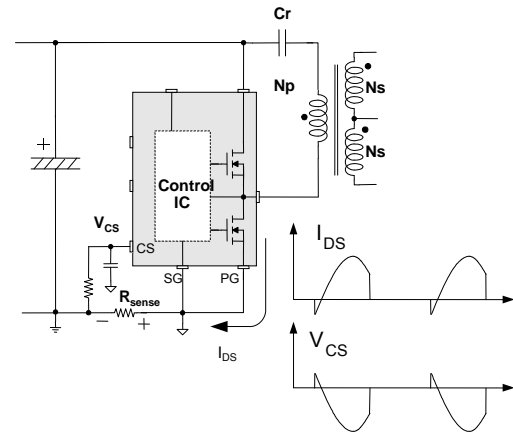
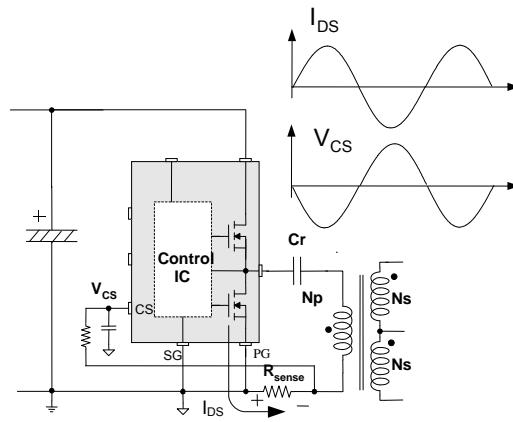

Figure 27. Half-Wave Sensing
Figure 28. Full-Wave Sensing
8.1 Resistive Sensing Method: The IC can sense drain current as a negative voltage, as shown in Figure 27 and Figure 28. Half-wave sensing allows low power dissipation in the sensing resistor; while full-wave sensing has less switching noise in the sensing signal. For a time constant range for the filter, $3/100 \sim 1/10$ of the operating frequency is reasonable.